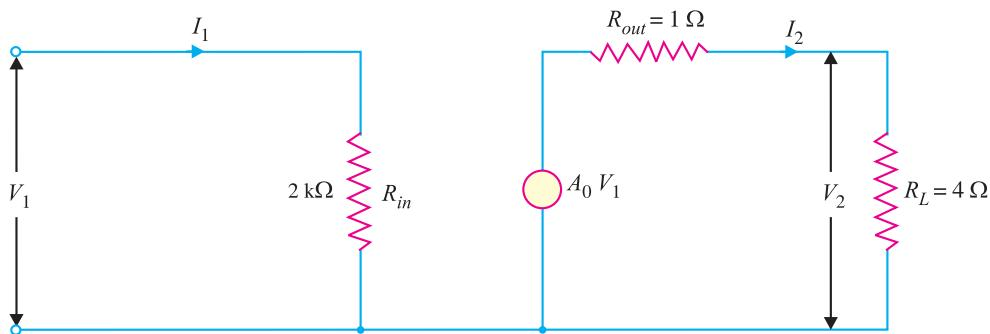

Fig. 10.43
**Solution.** Fig. 10.43 shows the equivalent circuit of the amplifier. Here  $A_0 = 1000$ .